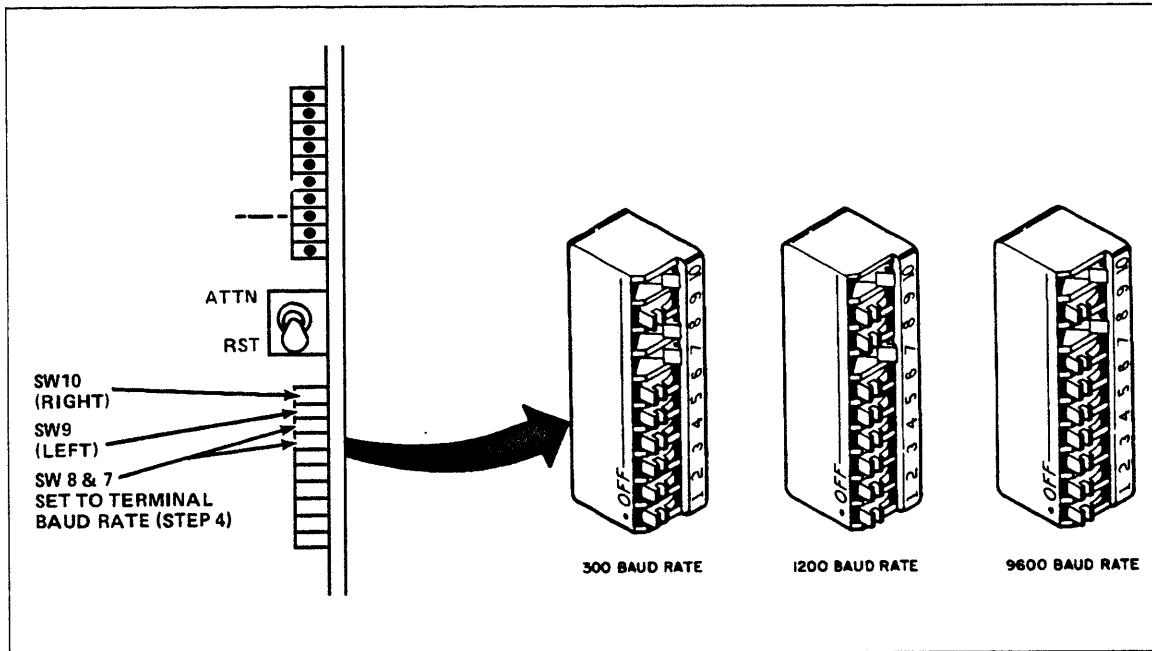

Figure 3-21. MPB Switch Settings for Entering System ID Through Terminal
5. Set MPB configuration switches as follows (figure 3-21).